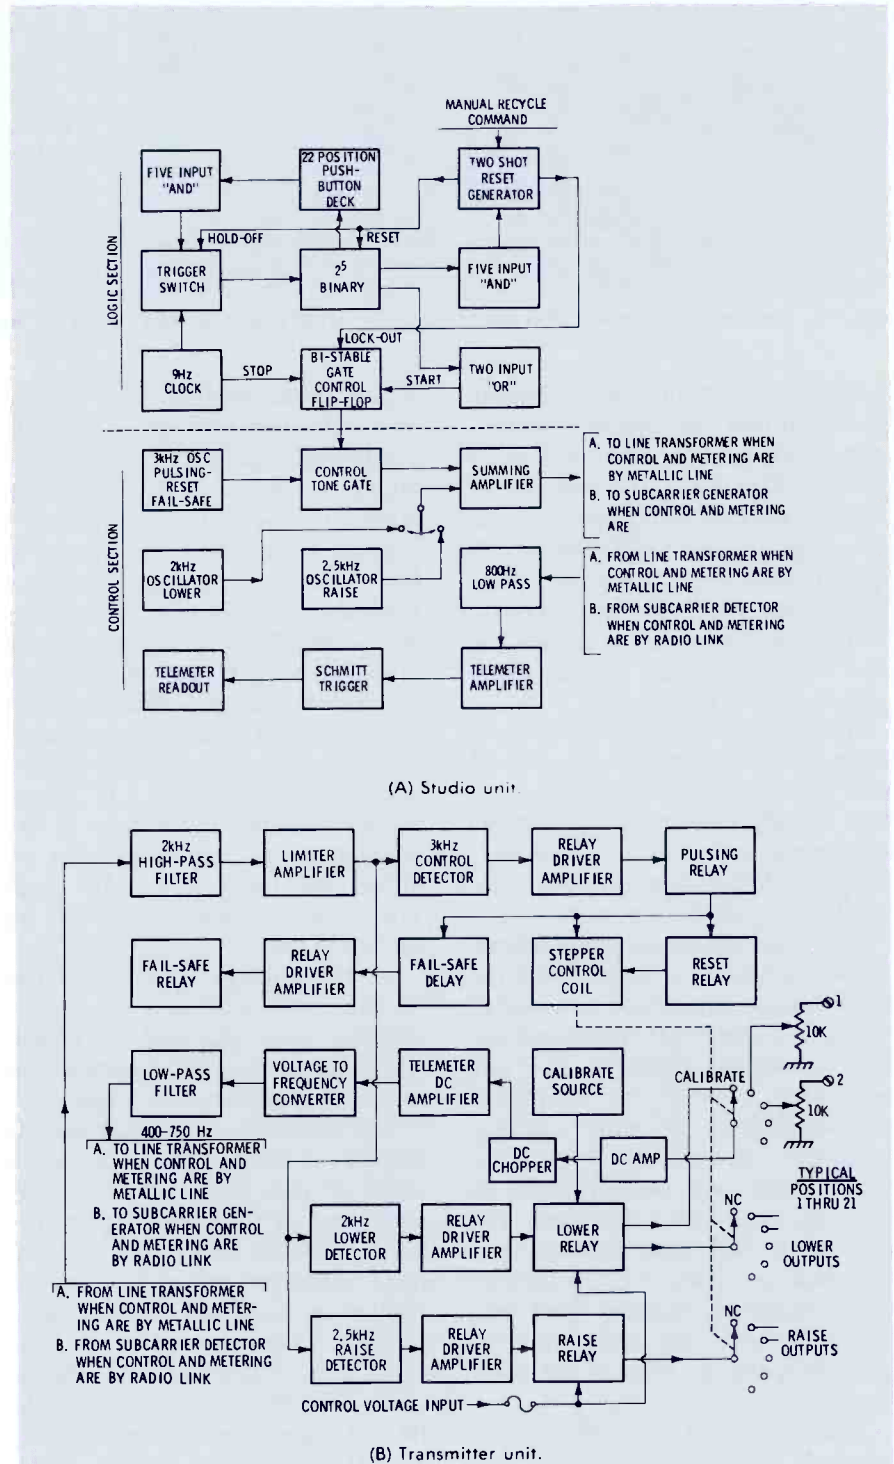

Fig. 2. Block diagram of the Moseley PBR-21 remote-control unit with changes.
The Moseley Type PBR-21 was selected. A block diagram of the unit is shown in Fig. 2 (A) and (B).